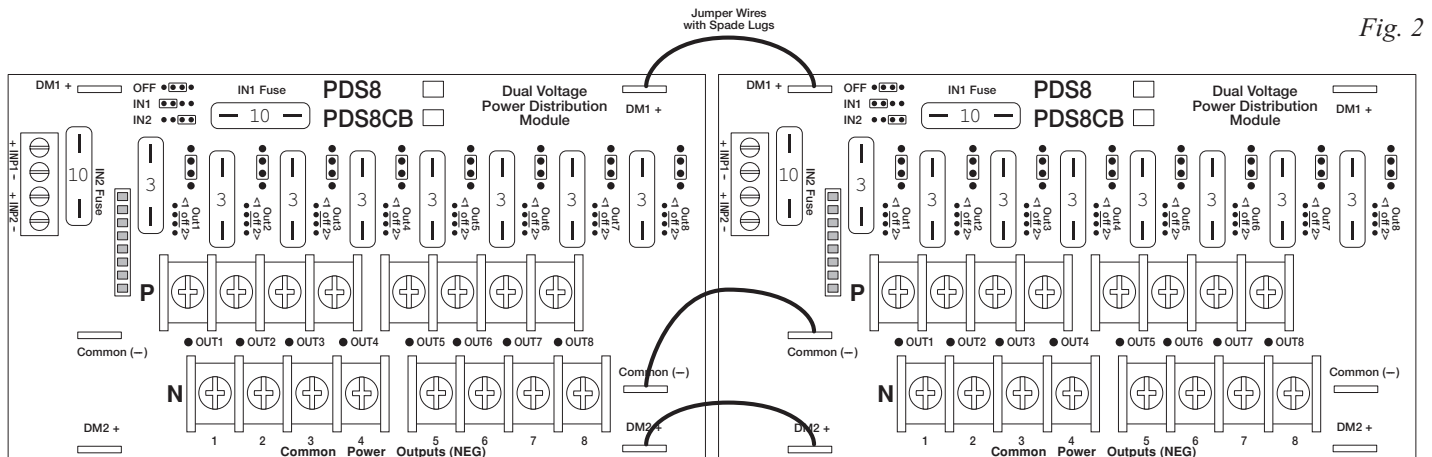

Fig. 2
3. Connect low voltage AC or DC power supplies to terminals marked [+ IN1 -], [+ IN2 -] (Fig. 1, pg. 2, Fig. 2 pg. 2).
4. Set each output [OUT1 - OUT8] to route power from power supply 1 or 2 (jumper position 1 or 2) (Fig. 1, pg. 2, Fig. 2 pg. 2).
6. Connect devices to terminal pairs 1 to 8, marked [P (Positive) - OUT1-OUT8, N (Negative)] (Fig. 1, pg. 2, Fig. 2 pg. 2).
1. Connect first PDS8/PDS8CB board's spade lug marked [DM1+] to the second PDS8/PDS8CB board's spade lug marked [DM1+] (Fig. 2, pg. 2).
2. Connect first PDS8/PDS8CB board's spade lug marked [Common (-)] to the second PDS8/PDS8CB board's spade lug marked [Common (-)] (Fig. 2, pg. 2).
3. Connect first PDS8/PDS8CB board's spade lug marked [DM2+] to the second PDS8/PDS8CB board's spade lug marked [DM2+] (Fig. 2, pg. 2).